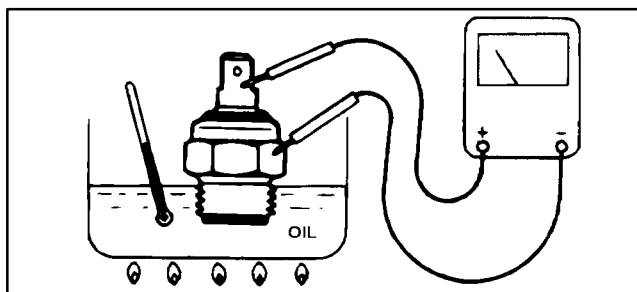

Figure 11
2. Put switch in a container of oil with a thermometer and slowly heat the oil (Fig. 11).